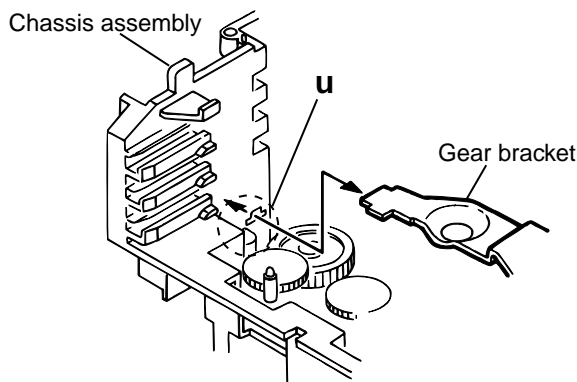

Fig.19
3. From the notch "u" section" on the chassis assembly fixing the edge of gear bracket, remove and take out the gear bracket(See Fig. 19).